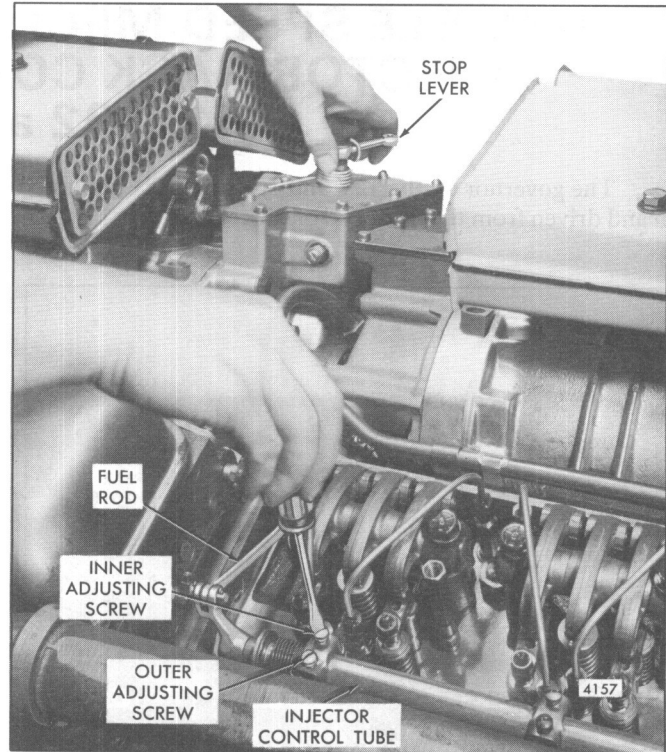

Fig. 4 - Positioning No. 4R Injector Rack Control Lever
4. Move the stop lever to the *run* position and hold it in that position with a light finger pressure (Fig. 4). Tighten the adjusting screw of the No. 4R (16V) or No. 3R (12V) injector rack control lever until the injector rack clevis is observed to roll up or an increase in effort to turn the screwdriver is noted. Tighten the screw approximately 1/8 of a turn more and lock securely with the adjusting screw locknut. This will place the No. 4R (16V) or No. 3R (12V) injector rack in the *full-fuel* position.